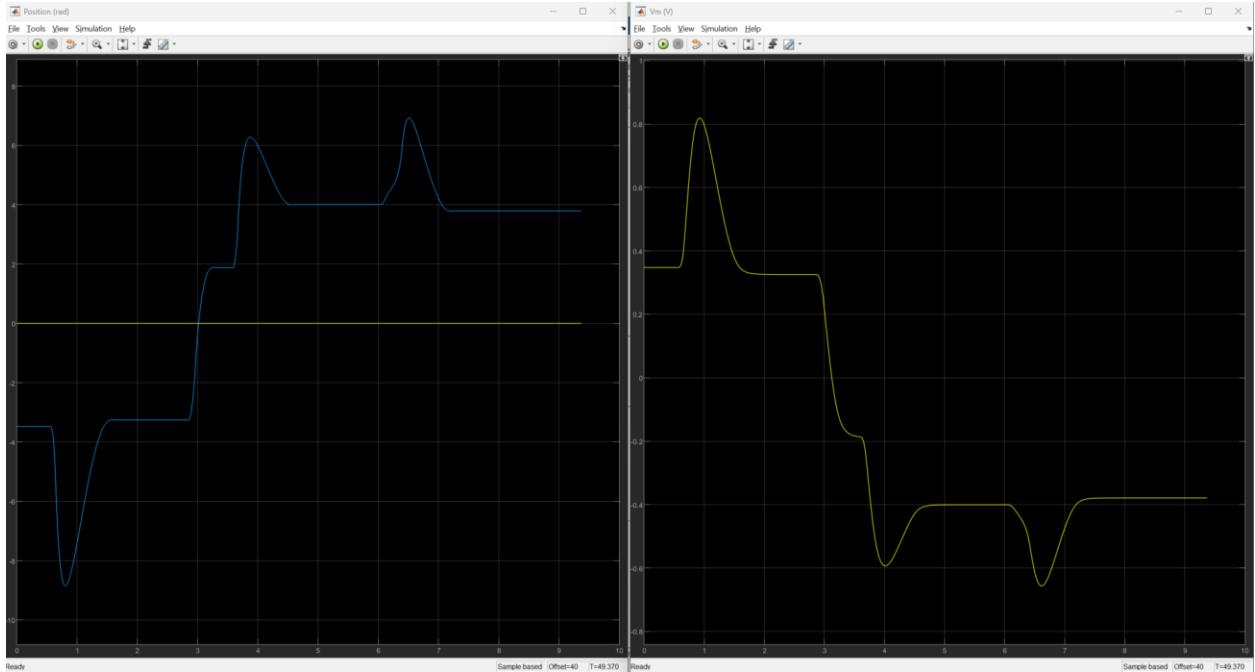

Figure 3: Example response when perturbing the disk with  $k_p = 1$ .
6. While the controller is running, manually perturb the disc on the Qube-Servo 3 and attach a screenshot of the scopes that represents the behaviour observed. Is the response stable? Is there steady state error once you have perturbed the system? An example response is shown below in Figure 3: